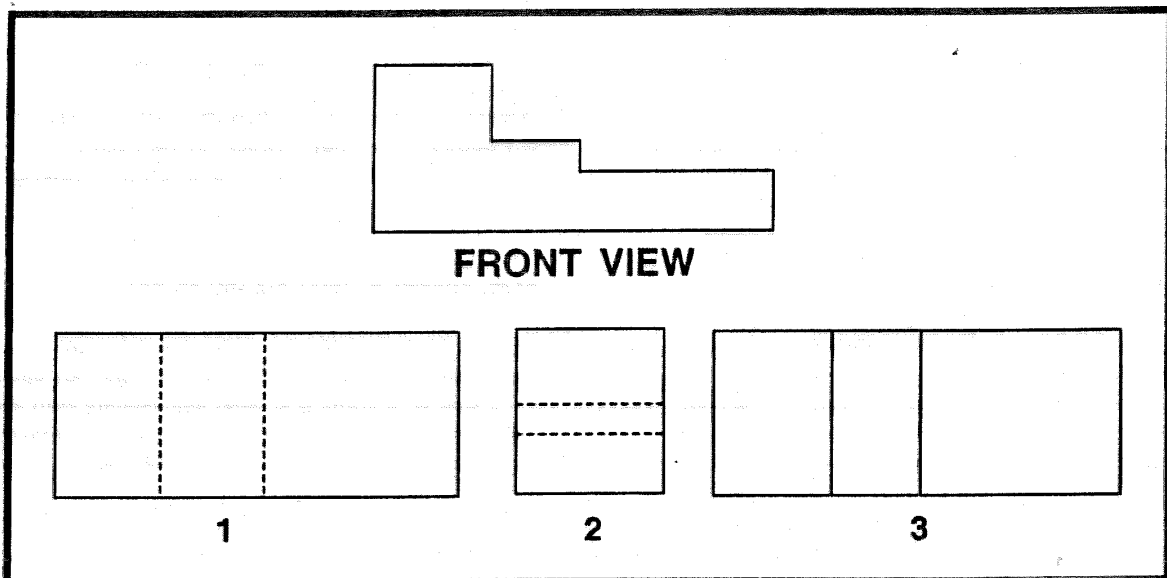

Fig. 3.3 Object Views.
5. (Refer to figure 3.3 Identify the bottom view of the object.